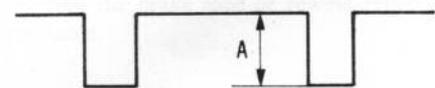

Fig. 48
4. Adjust R646 so that A portion becomes 3Vp-p as shown in Fig. 48.